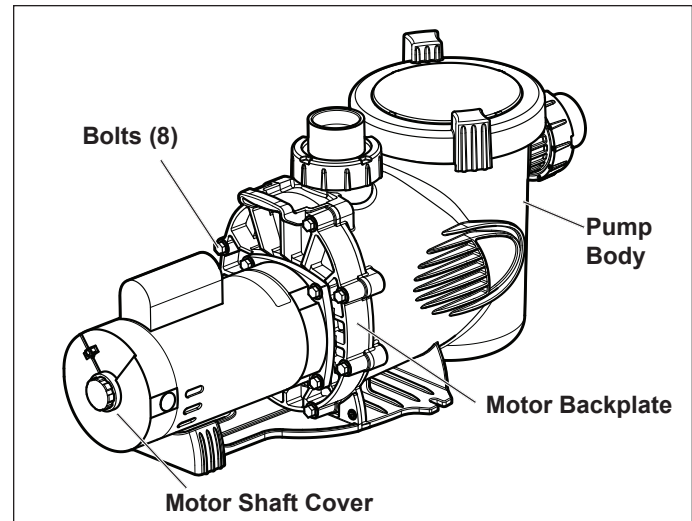

Figure 5. Remove the Pump Housing
3. Using a 9/16" wrench, loosen the bolts connecting the pump body to the motor backplate. See Figure 5.
7. Remove the motor shaft cover on the back of the motor by twisting the hex-head screw with a 90° crescent wrench, see Figure 5. The motor shaft will be exposed.